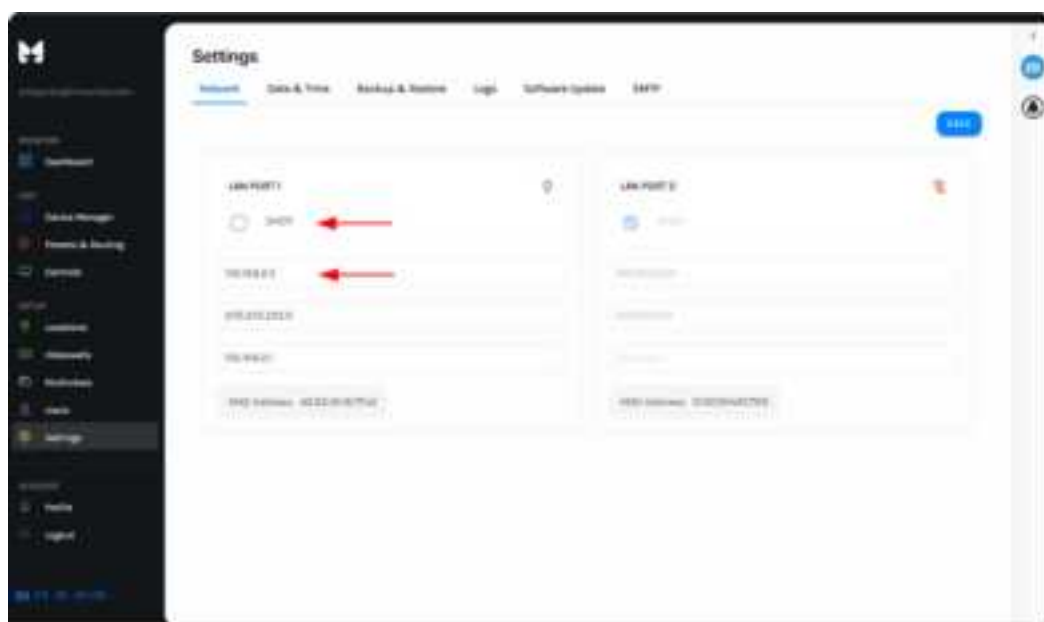

Figure 8
9. In the LAN PORT 1 section make sure the DHCP button is not selected. In the IP address field, type the first 3 entries of the IP address of the network subnet on which the Muximus Network Controller will be installed, which in our example is 192.168.2.x. Where x in our example can be any number from 3 to 254, for this example we will select "5" for a Static IP address of 192.168.2.5, see Figure 8. Just make sure the Static IP address for the Muximus Network Controller does not conflict with the Static IP address of the Ethernet Switch and the Router or any other Static IP address already pre-assigned in the given network.